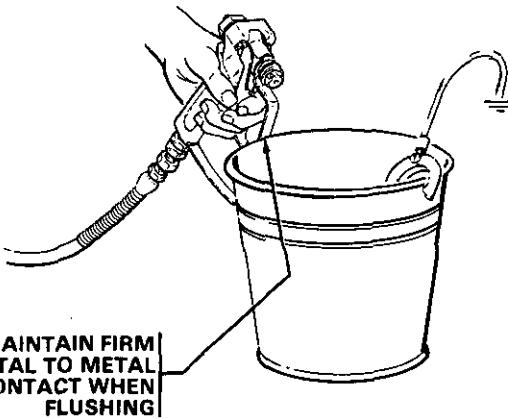

Fig 9
6. Disengage the gun safety latch. Point the spray gun into a metal waste container and with a metal part of the gun firmly touching the metal container, squeeze the gun trigger. See Fig 9. **This procedure helps reduce the risk of static sparking and splashing.** With the gun triggered, turn the ON/OFF switch to ON and slowly turn the pressure adjusting knob clockwise *just until* the sprayer starts. Keep the gun triggered until clean solvent comes from the nozzle. Release the trigger and engage the gun safety latch.